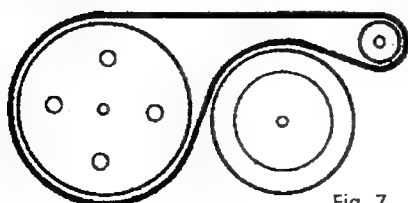

Fig. 7
3. The belt will be disengaged. Fit the belt by the method shown in Fig.7. Next, detach the flywheel. (The washer can be removed in the direction of the pinch roller.)